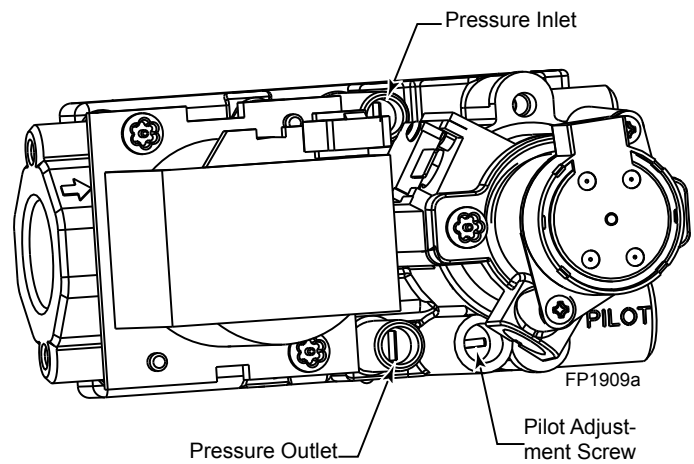

Fig. 48 Signature Command Valve
RADVTSC models are equipped with the Signature Command control valve (Figure 48) which operates on 6 volts. The A/C module plugs into the stove junction box A/C power supply. Four (4) "AA" batteries are used for back up during power outages.